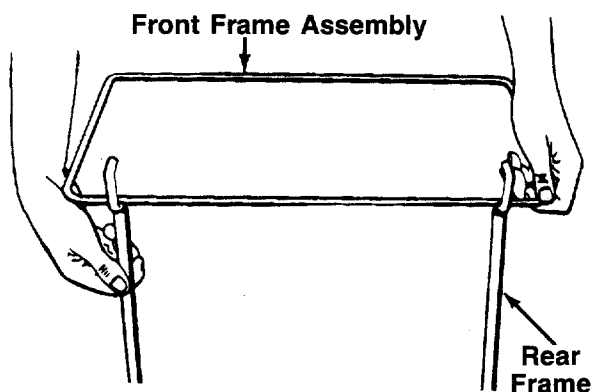

FIGURE 10.
1. Join the rear frame and front frame assembly as shown in figure 10.